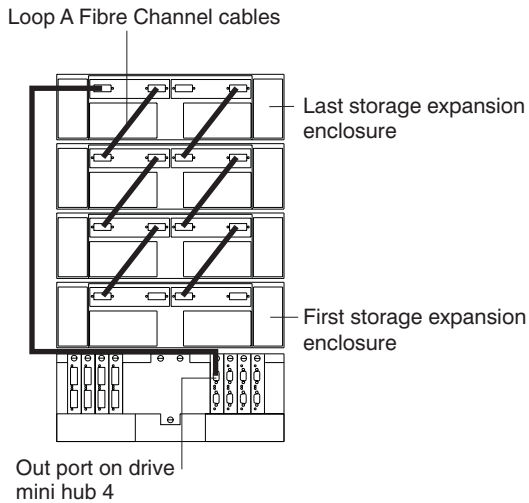

Figure 14. Connecting drive loop A to the DS4500 Storage Subsystem
1. Connect drive loop A to the DS4500 Storage Subsystem, as shown in Figure 14 on page 14.